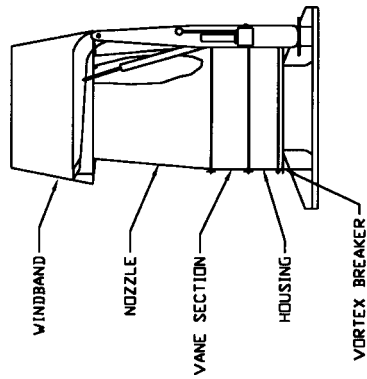

FIGURE 3
- 4) Unbolt the nozzle from the vane section. Rotate the nozzle in place to break any adhesion to the vane section caused by caulk or gasket. Wrap the hook from the jib arm around one of the wind band brackets. (Figure 3)
- 7) The fan must be raised level, be sure that the chain at the hole in the motor base is short enough to provide a level and even lift. (Figure 3)
- 8) Unbolt the housing from the vortex breaker. (Figure 3)